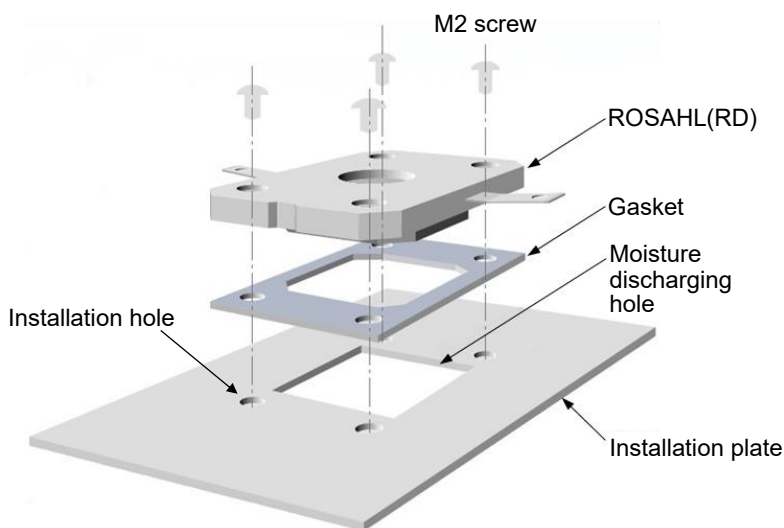

Fig.1 Installation Image
(Refer to the Fig.1~2)
- ^{*5} Refer to the Figure 1~2.